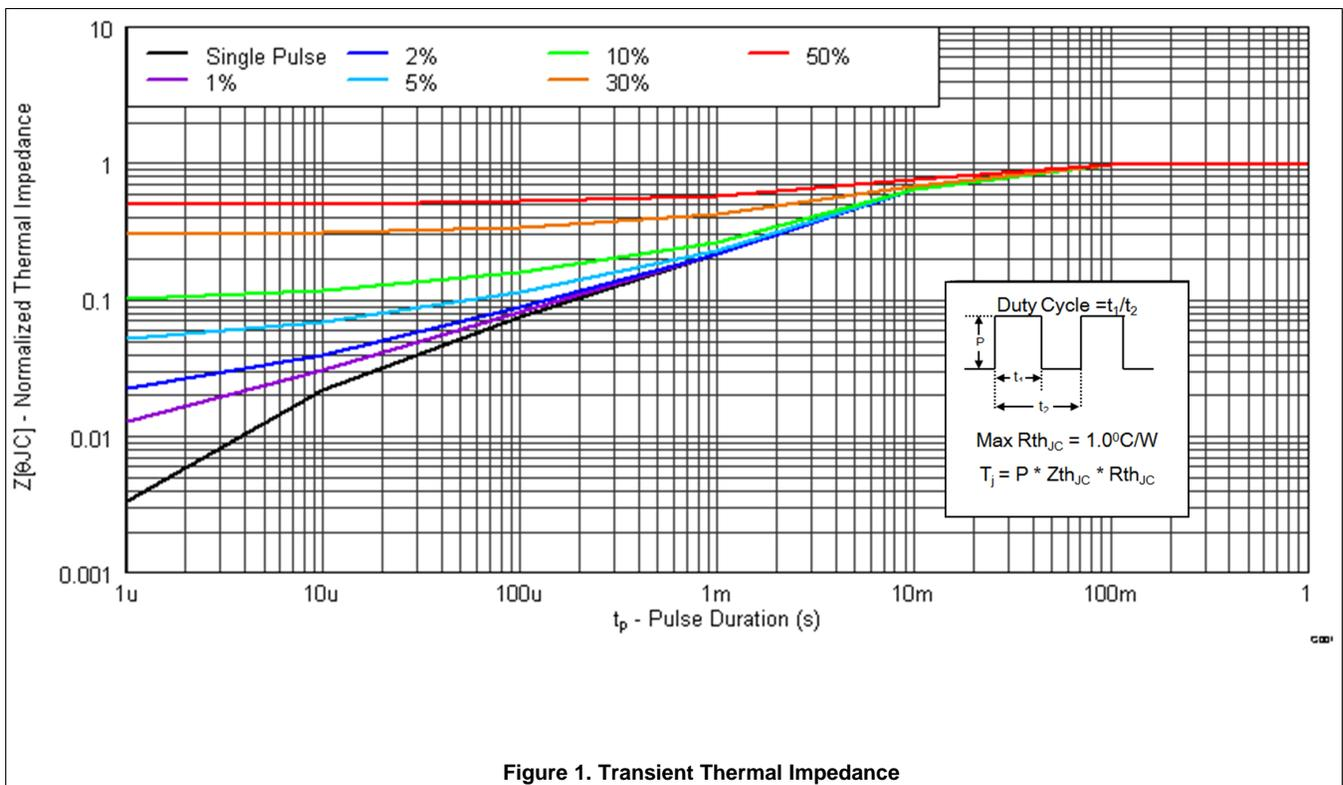

Figure 1. Transient Thermal Impedance
• Changed <a href="#">Figure 1</a> from a normalized $R_{\theta JA}$ curve to a normalized $R_{\theta JC}$ curve .....	4
• Changed Typ $R_{th JA} = 99^\circ\text{C/W}$ to $R_{th JA} = 100^\circ\text{C/W}$ in <a href="#">Figure 1</a> .....	4